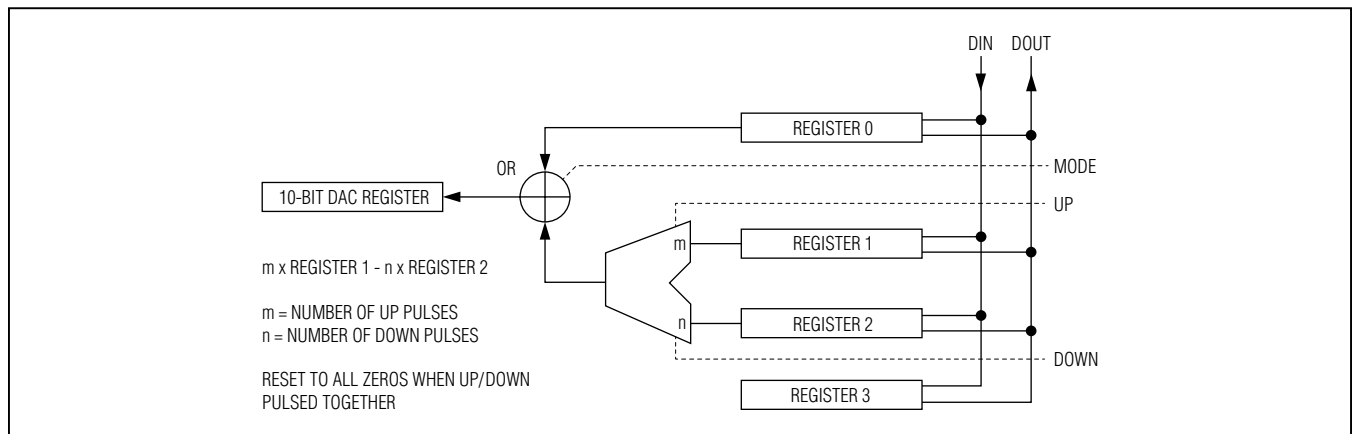
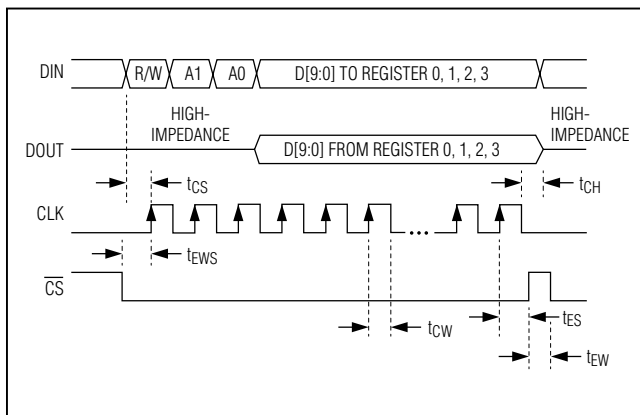
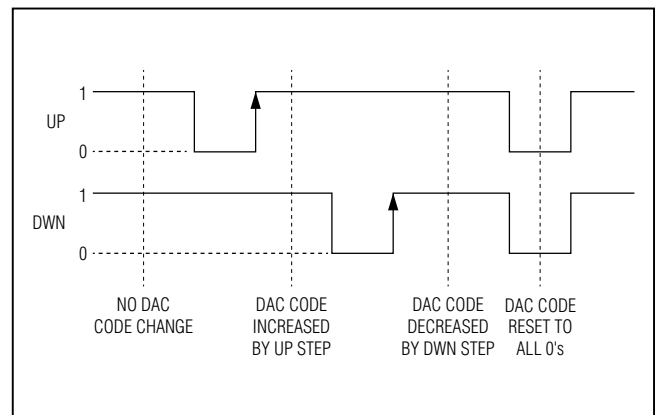

Figure 1. Register Configuration Diagram
Figure 2. SPI Timing Diagram
Figure 3. UP/DWN Control Diagram (MODE = 1)
Figure 1 shows the configuration of the internal registers of the device and Figure 2 shows the timing of the SPI bus. Register 0 sets the DAC code to the desired value, register 1 selects the step-up code, and register 2 selects the step-down code.
After powering up the device, UP and DWN should both be set to 0 to reset the m and n counters to 0. This results in a 10-bit all 0 code out of the mathematical block in Figure 1, and applied to the 10-bit DAC register that drives the DAC. To increase (decrease) the code using the UP (DWN) pin, the DWN (UP) pin must be high and the UP (DWN) pin should be pulsed low to high. The device is designed to produce no wraparounds when using UP and DWN stepping so that the DAC code maxes out at 1023 or goes no lower than 0. See Figure 3 for the UP and DWN control operation.
The device can be controlled with a 4-wire, SPI-compatible serial interface. Figure 2 shows a timing diagram for the interface. In the write mode, a 13-bit word is loaded into the device through the DIN pin, with \overline{CS} set low. The first bit of the word in the write mode is 0, and the next two bits select the register to be written to (Table 2). The next 10 bits contain the data to be written to the selected register. After the 13 bits are shifted in, a low-to-high \overline{CS} command is applied and this latches the 10 bits into the selected register. The entire write command is ignored if \overline{CS} is pulsed low to high before the last data bit is successfully captured.
| Logic 0 pulse | Logic 1 | Increase the DAC code* by the amount located in register 1. UP is pulsed from high to low to high (see Figure 3). |
| Logic 1 | Logic 0 pulse | Decrease the DAC code* by amount located in register 2. DWN is pulsed from high to low to high (see Figure 3). |